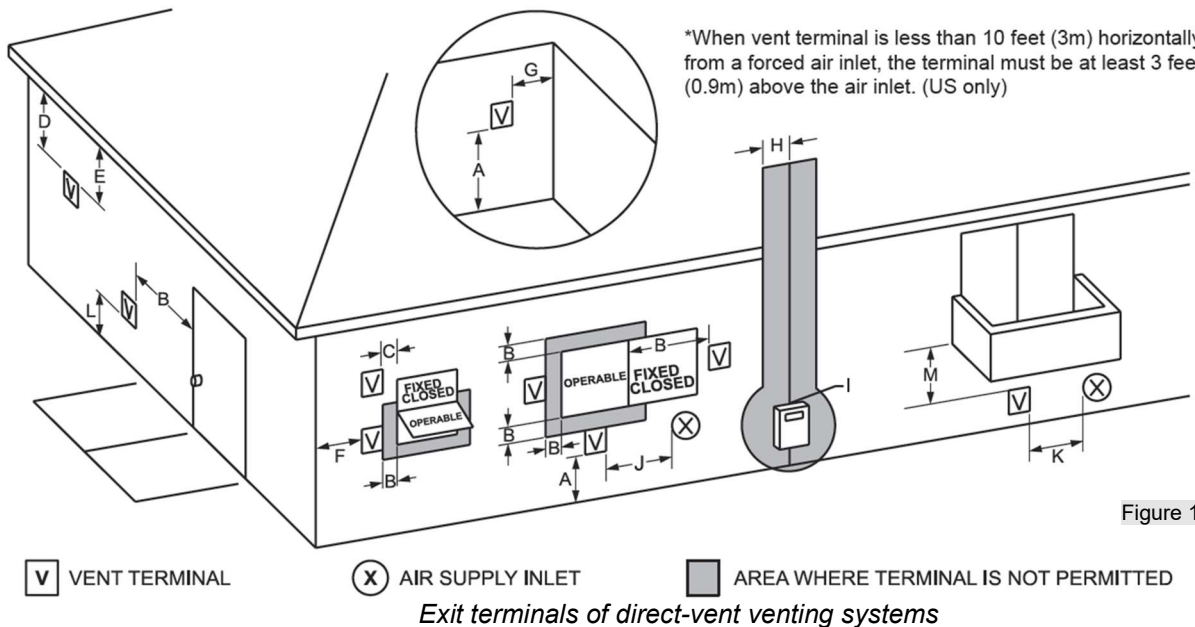

Figure 11.13
2. Locate the vent pipe penetration to provide clearances as described in Figure 11.13.
- Determine the best location for the termination kit (see figure 11.13).